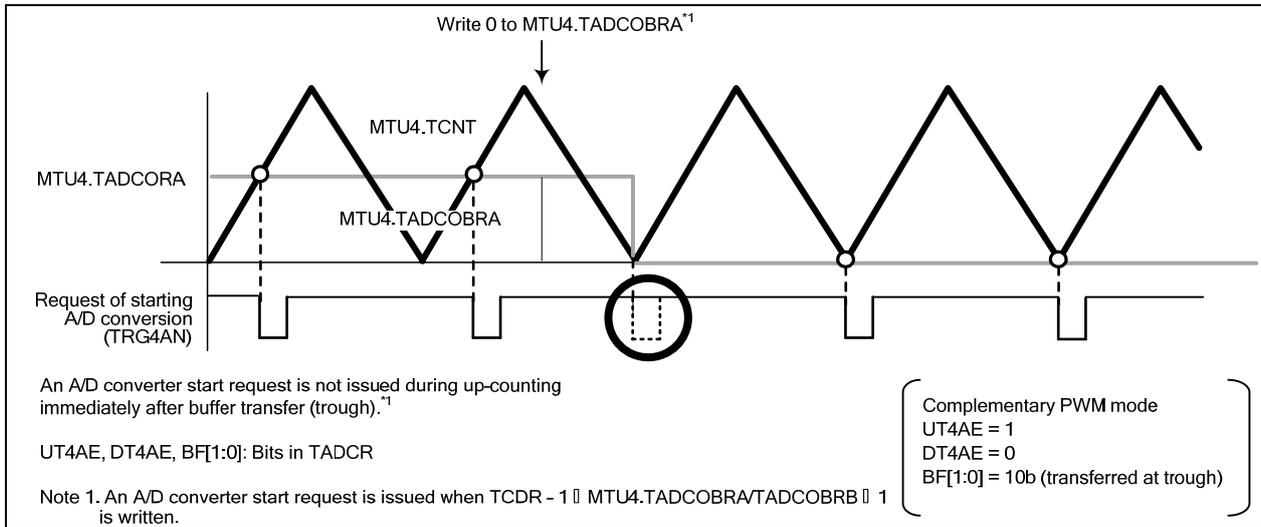

Figure 16.143 A/D Converter Start Request When 0 is Written to MTU4.TADCOBRA
- When data is transferred from a buffer register at the trough of the MTU4.TCNT (MTU7.TCNT) counter while the MTU4.TADCOBRA and MTU4.TADCOBRB (MTU7.TADCOBRA and MTU7.TADCOBRB) registers are set to 0 and the UT4AE and UT4BE (UT7AE and UT7BE) bits in the MTU4.TADCR (MTU7.TADCR) register are set to 1, no A/D converter start request is issued during up-counting immediately after transfer. See Figure 16.143.